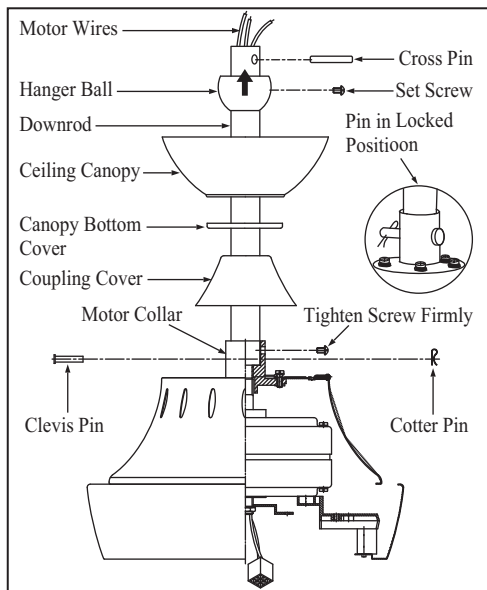

Figure 13
7. Slip coupling cover, canopy cover and canopy onto rod being sure that cross pin is in correct position, set screws are tighten and wires are not twisted. (Figure 13)